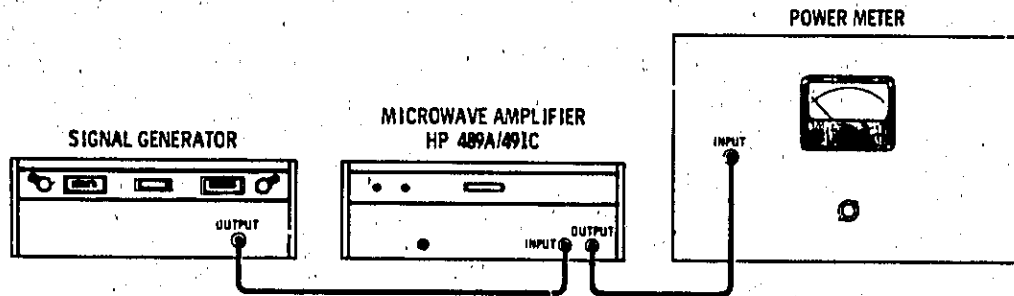

Figure 4-1. Power Amplification Test Setup
1. Connect equipment as shown in Figure 4-1, and set the controls as follows: